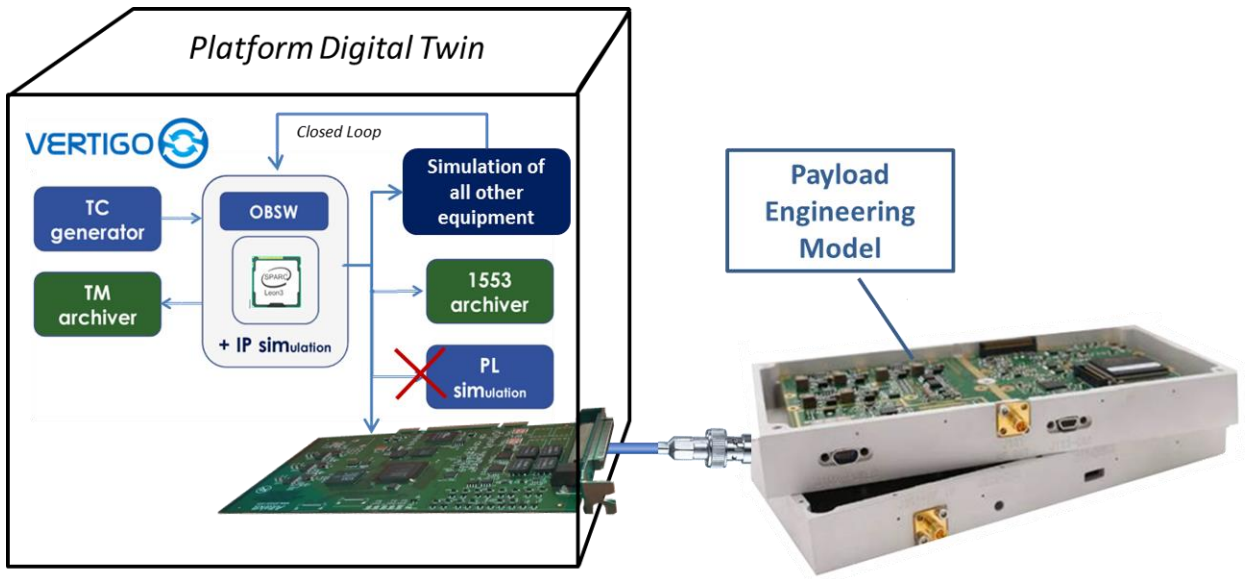

Fig. 3. Architecture of SmartCube as a satellite platform digital twin
- *SmartCube Satellite Digital Twin*, for satellite platforms or payloads (see Fig. 3 and Fig. 3)